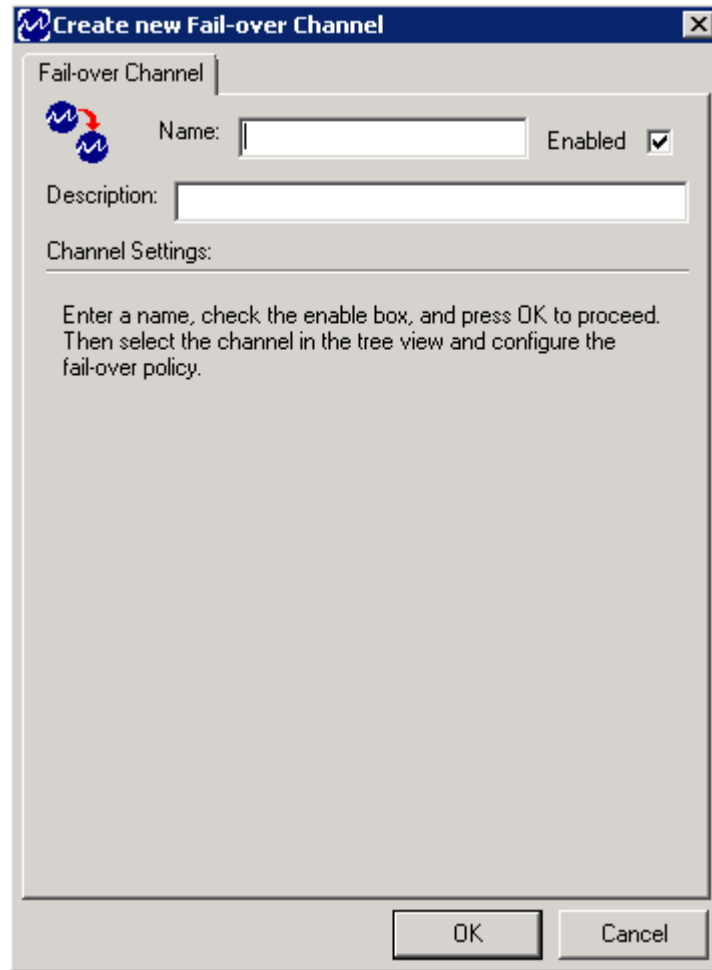

Figure 10 - Create New Fail-Over Channel Window
The **Create New** window (Figure 10) displays the settings available for a new object.
The **Create New** window (Figure 10) displays the settings available when creating a **Fail-over Channel** object.
5. The **Create New** window appears (Figure 10).